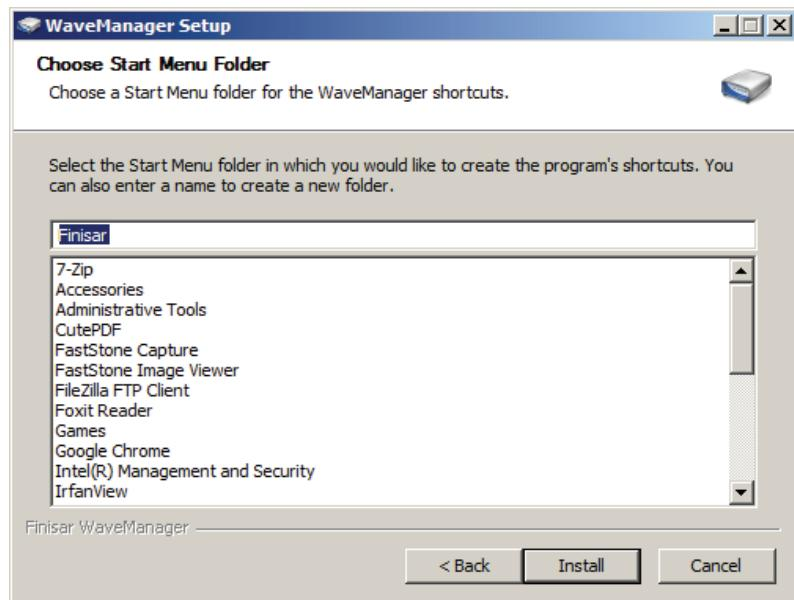

Figure 2.6 Enter name of Start folder
5. Select the name of the Start Menu folder, then click <Install> (Figure 2.6).